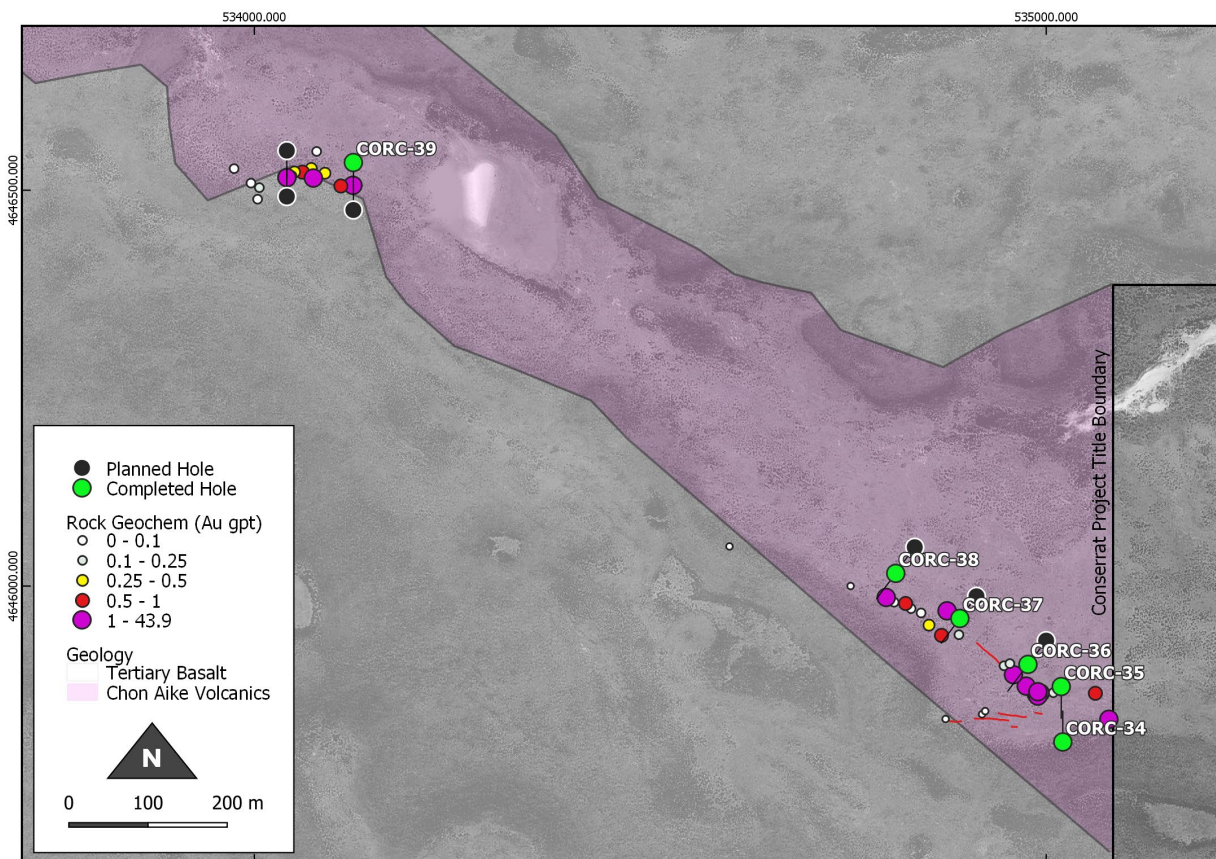

Figure 1: Map Showing Patricia & Mia Completed Drill Holes
Six Reverse Circulation (RC) drill holes for 440m were completed prior to work being suspended (see Table 1 and Figure 1).